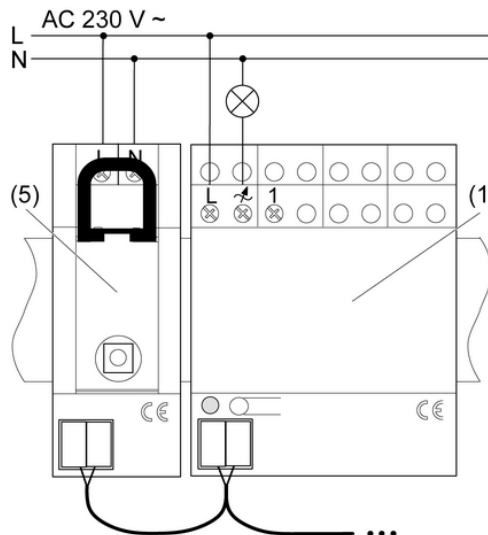

Figure 2: Connecting the dimmer (1) to RMD radio receiver (5)
- Connect dimmer to terminal (4) via a bus cable with the RMD radio receiver (5) and/or other radio actuators (figure 2).